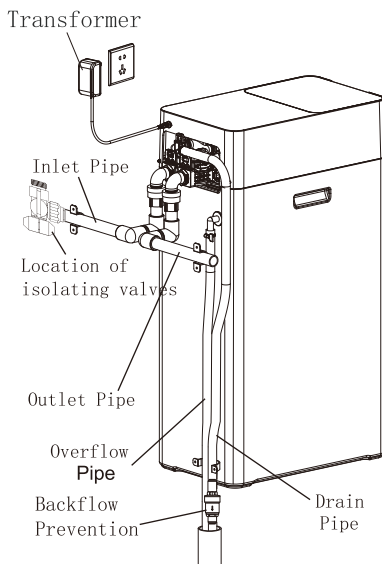

Figure 6
- 6) You can insert the drain pipe and overflow pipe into the floor drain. As shown in Figure 6, you should ensure that the two hoses are fixed on the wall to prevent the hose from flushing out of the floor drain when discharging, resulting in adverse effects or damage and all losses arising therefrom. The company will not be liable.